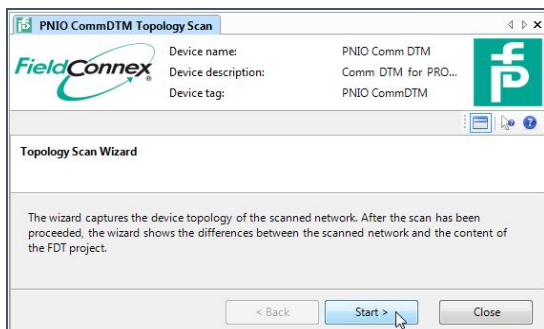

Figure 50: Start searching for gateway module
- 2) Click the **Start** button (see: Figure 50: Start searching for gateway module).